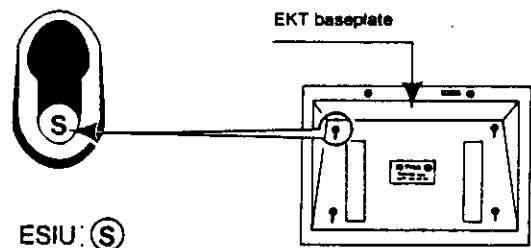

FIGURE 1 — INDICATION OF ESIU IN EKT
1.8 To determine if an ESIU has already been installed in an EKT, without opening the case, turn it face down and check the right upper "key hole." If an ESIU has been installed an "S" will be visible in the keyhole. See **Figure 1**.